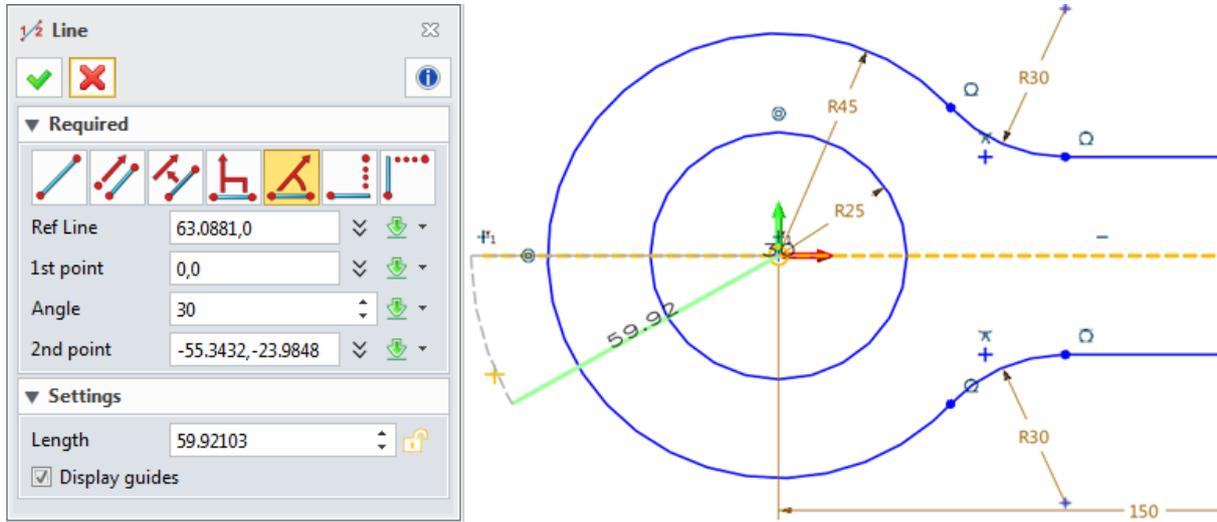

Figure 104 Create a Line
STEP 08 Create a line with 30 degree angle with the horizontal line, refer to the Figure 104.